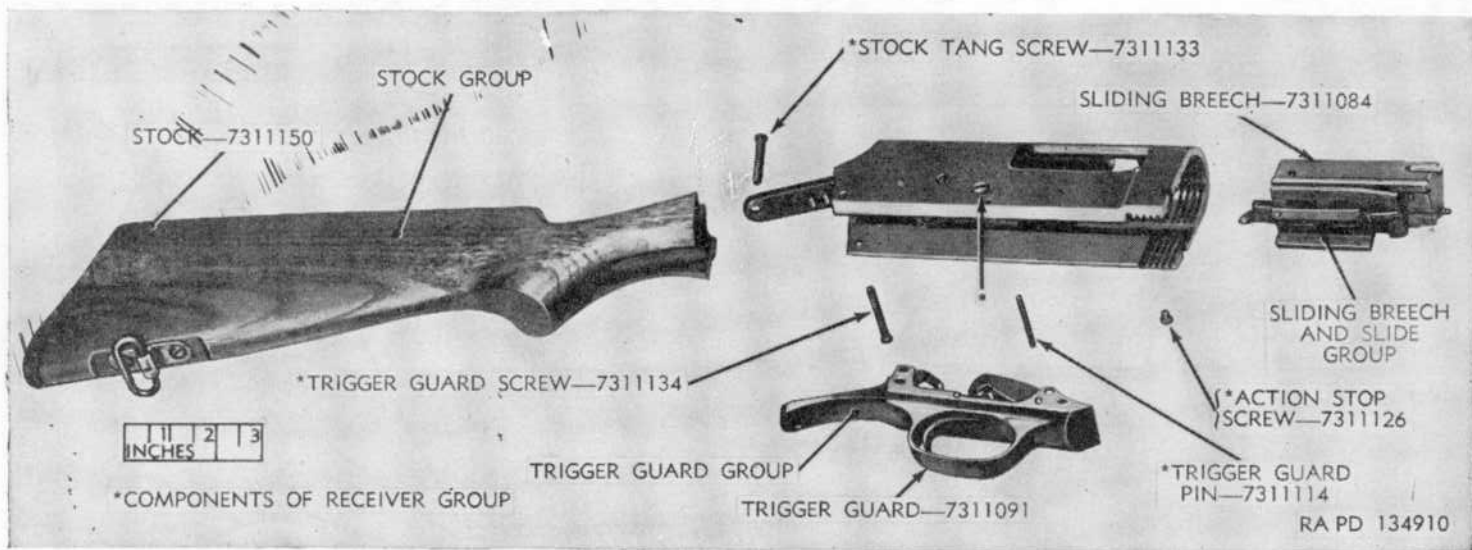

Figure 34. Breech end of Stevens shotgun M520-30—partially exploded view.
- (1) Push action bar assembly forward slightly to release slide plunger spring pressure, press up slide lock release at left of trigger, and pull action bar fully to the rear. This action will move the sliding breech to the rear and free the extractors from the barrel head grooves.
- (2) Unscrew the magazine until the magazine nut lugs have been disengaged from the slots in both the receiver and the barrel head.
- (3) Slide barrel head down (from top of receiver) and out of the receiver about one-eighth inch or as far as it will move. This movement disengages the rear end of the action bar from the slide.
- (4) Pull the action bar group all the way forward so that the rear end of the action bar clears the receiver. Then slide the barrel, magazine, and action bar group down and out of the receiver.
c. *Sliding Breech and Slide Group* (fig. 34 or 35).
- (1) Unscrew and remove action stop screw.
- (2) Slide the sliding breech and slide forward in receiver by tapping the forward end of the receiver with a wooden block. If locking block enters aperture in receiver, press down on block until clear and pull breech and slide forward. If the shell stop
(2) *For the shotgun M520-30 only (fig. 34).*
e. Trigger Guard and Receiver Groups (figs. 34 and 35).
- (1) Move hammer to cocked position. This precaution will minimize danger of damaging slide lock release spring.
- (2) Remove the trigger guard screw and trigger guard pin, located on the lower left end of the receiver, that secure the trigger guard group to the receiver.
- (3) Pull the group downward and out of receiver. Watch for the slide lock release assembly which may fall out when the trigger guard is removed.
- (4) In the shotgun M620A only, the receiver extension will then drop out of its receiver grooves.